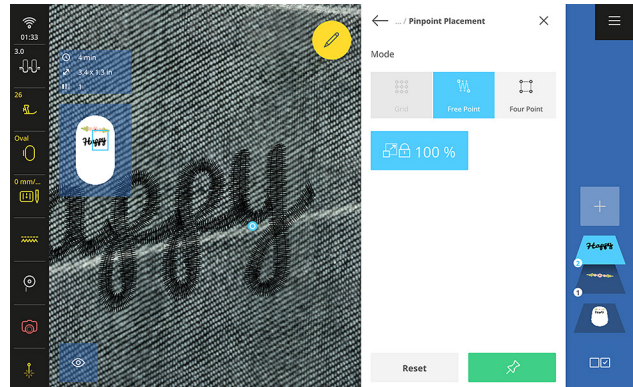

Fig. 47
26. Use the Multi-function Knobs to align this portion of letter on top of the line, too. Now "Happy" looks like it was written on lined paper with the "y" going below the chosen baseline (Fig. 47).